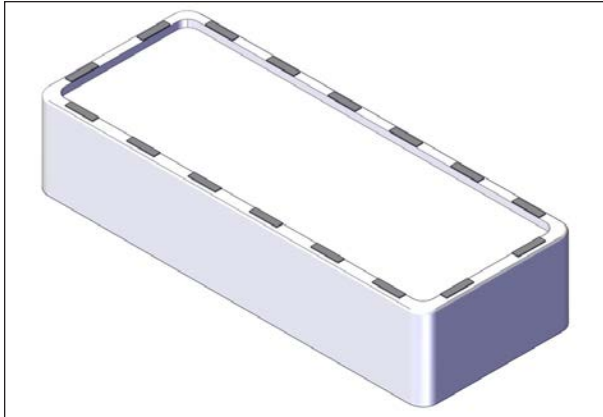

FIGURE 19: FOAM SPACER INSTALLATION
1. Install the foam spacers on the top of the spa using the masking tape provided in the seal bag to keep the spacers in place. There must be at least four foam spacers on each long side plus two in each corner. Do not stack foam spacers, see Figure 19.